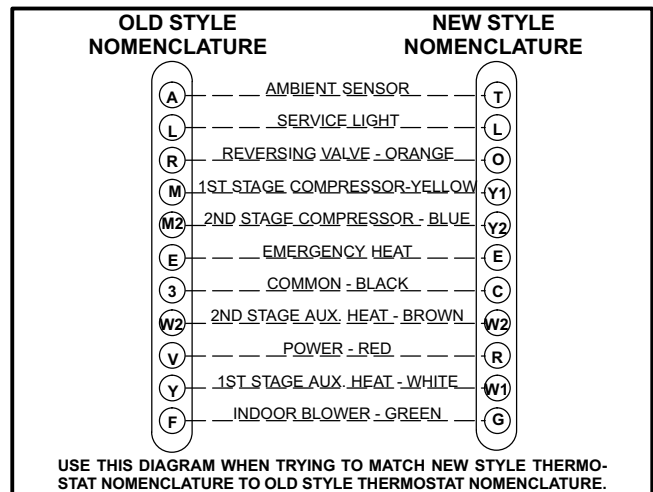

FIGURE 4
- 4- Install room thermostat (ordered separately) in the conditioned area. See figure 4 for new Lennox thermostat nomenclature versus old style nomenclature. Locate thermostat where it will not be affected by sunlight, drafts or vibration. Do not install thermostat on an outside wall. A position approximately 5 feet (1524 mm) from the floor and near the center of the conditioned area is most desirable.